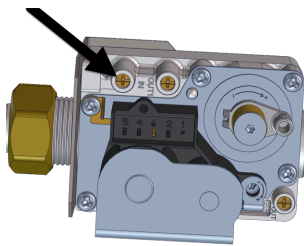

Figure 43 Location of inlet gas pressure test port
1. Shut off the gas supply. You will be measuring the inlet gas supply from the test port (see Figure 43). Do not perform a test from the manifold gas pressure test port.